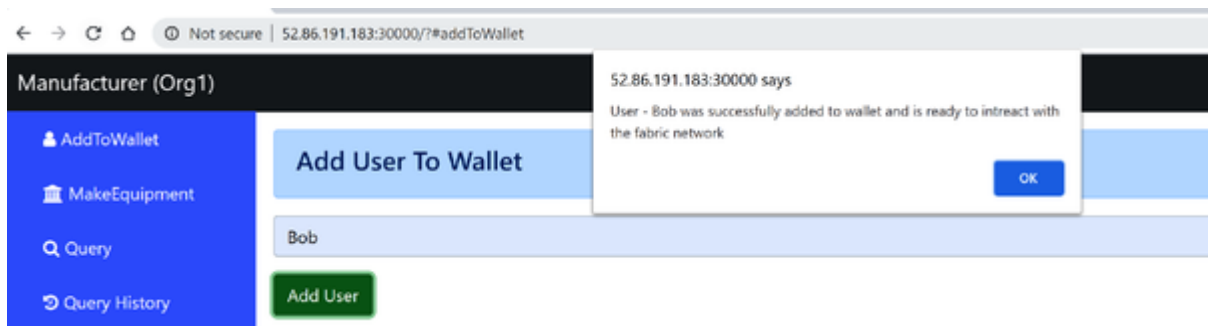

Figure 9: New user (Bob) is added
9. The default page is *addToWallet*. Since we have not added any user to the wallet so far, you can't submit *makeEquipment* and *query history* transactions at this moment. You have to add a user to the wallet. Let's add Bob as a manufacturer user, as shown in **Figure 9**.